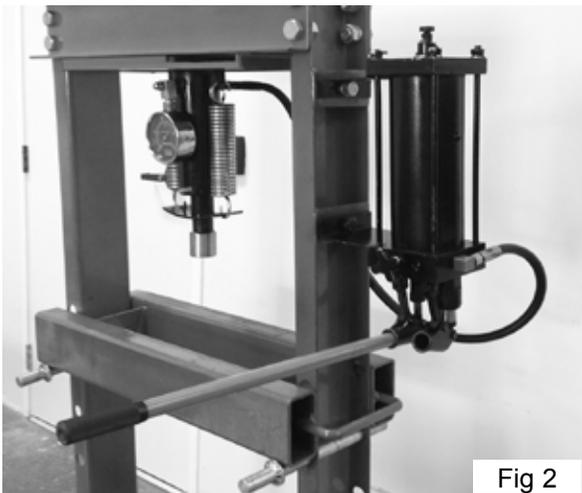

Fig 2
5. Attach the Pump Assembly (16) to the side of the right side Post using the supplied bolts, nuts and lock washers. (See Figure 2)